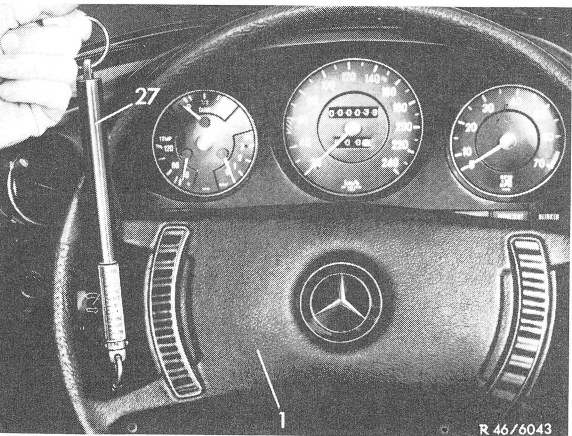

Fig. 1 1 Steering wheel 27 Spring balance
- 2 Connect spring balance (27) to a steering wheel spoke at a distance of 190 mm from steering wheel center. Then pull on steering wheel at an angle of 90° in turning direction (fig. 1).